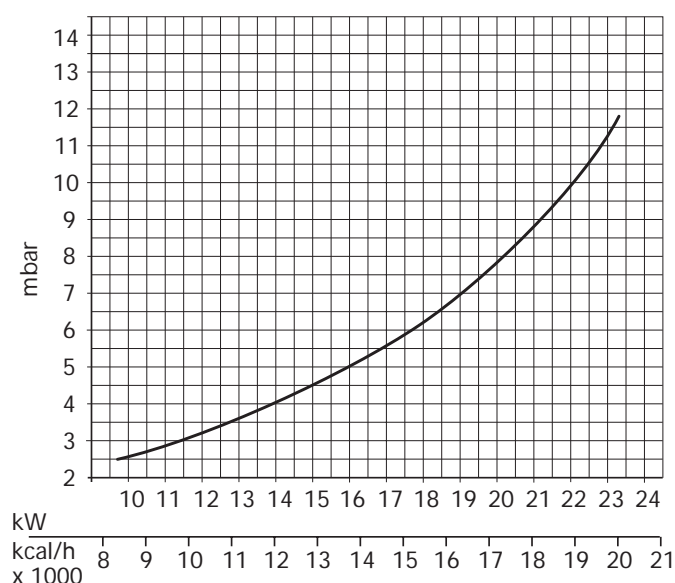

Fig. 4
N.B. - The gas pressures at the burner and gas flows during the central heating phase given in the table refer to nominal boiler output. To reduce this output (where necessary), gas pressure must be reduced until the required output level is reached (see figures 4 and 5).
To adjust boiler heat input (thus also regulating heat output to the central heating water) simply adjust the main burner via the electronic control board (fig. 4 and 5 and see paragraph 5.04 page 29).